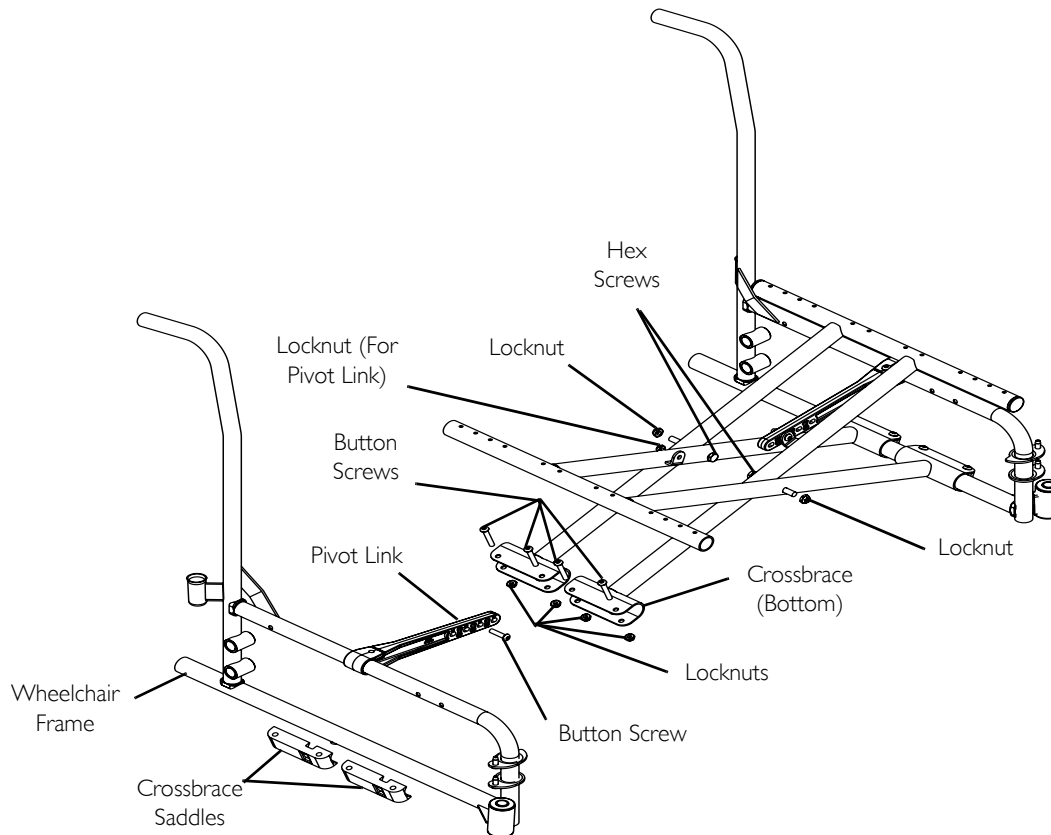

FIGURE 10 Adjusting the Seat Width
For this procedure, refer to FIGURE 10 on page 49.
- Assemble the two new crossbraces together with the existing two hex screws and locknuts. Securely tighten. Refer to FIGURE 10 for hardware orientation.
Position the rear crossbrace saddles on wheelchair frame using the washer on the underside of the wheelchair frame as a reference. Refer to FIGURE 10 on page 49 for proper positioning of the crossbrace saddle.